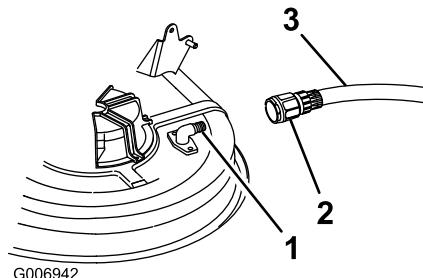

Figure 54
4. Attach the coupling (not included) to the mower washout fitting and turn the water on high (Figure 54).